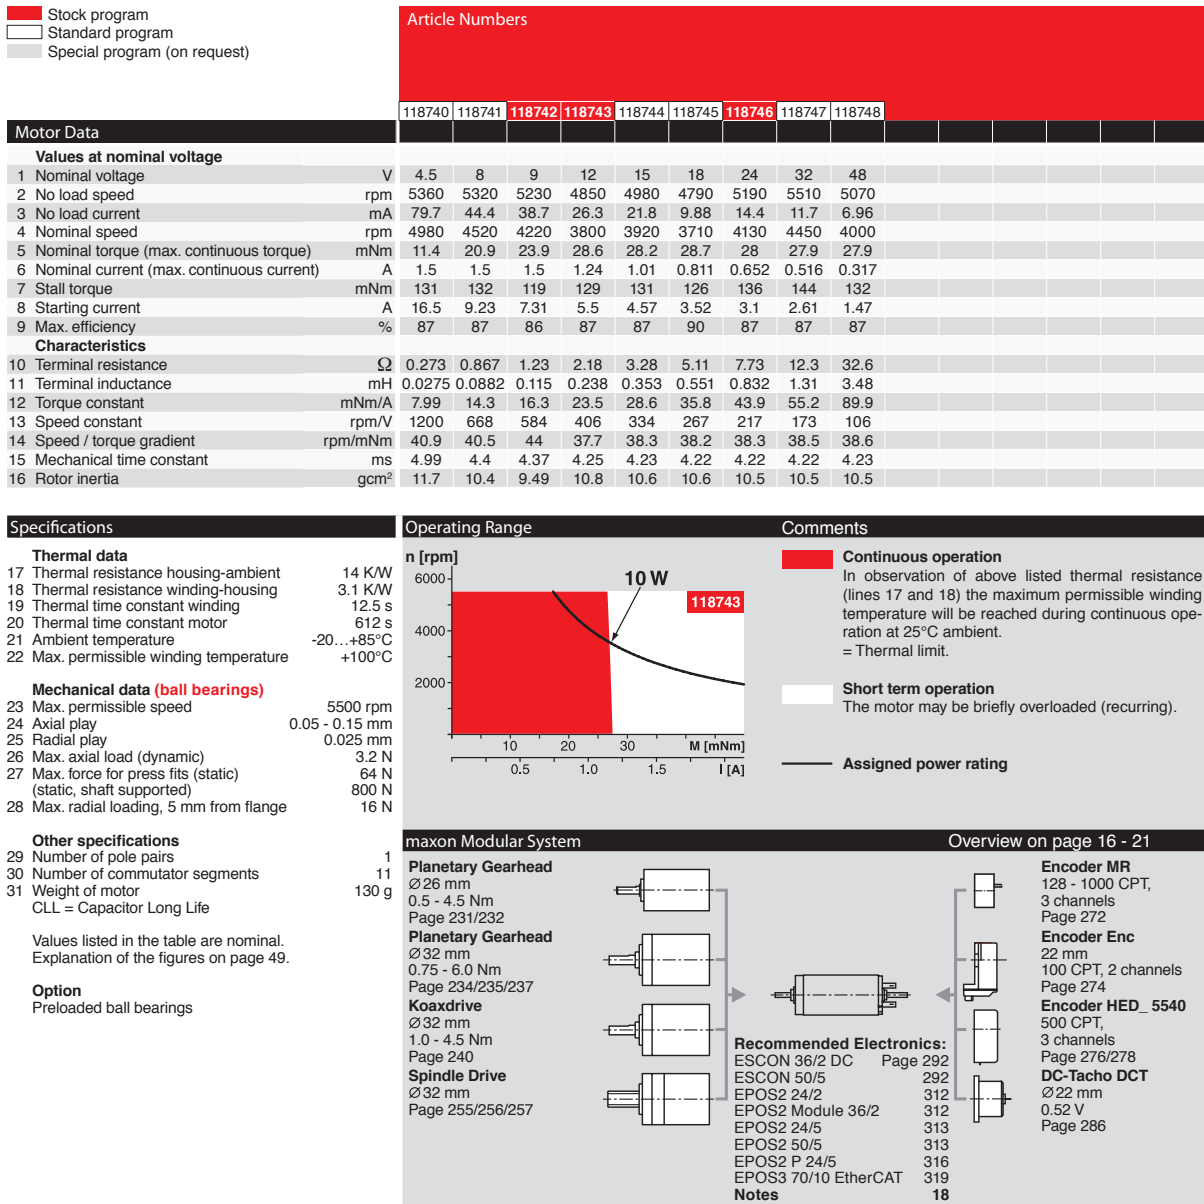

Figure 11.15: The data sheet for the Maxon RE 25 motor. The columns correspond to different windings for different nominal voltages.
- Figure 11.15 gives the data sheet for the 10 W Maxon RE 25 motor. The columns correspond to different windings.
- (i) (Optional) Motor manufacturers may specify slightly different continuous and intermittent operating regions than the ones described in this chapter. For example, the limit of the continuous operating region is not quite vertical in the speed-torque plot of Figure 11.15. Come up with a possible explanation, perhaps using online resources.